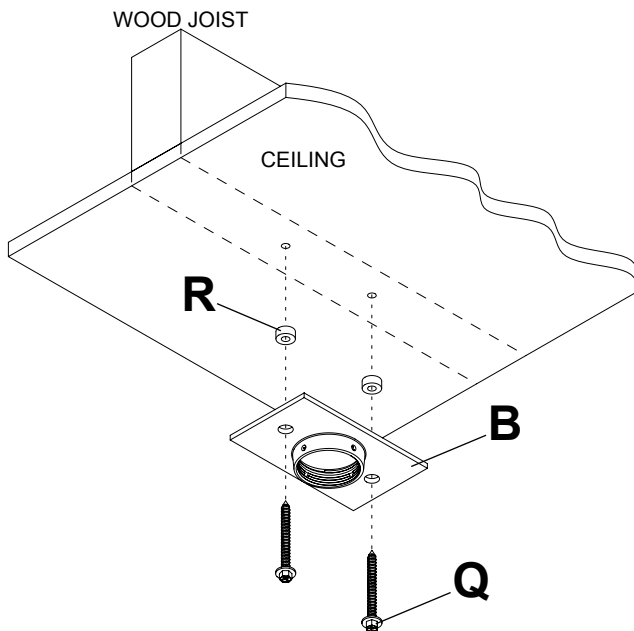

**fig. 1.1**
**1** Drill two 5/32" (4 mm) dia. holes to a minimum depth of 2.5" (64 mm). Attach ceiling plate (**B**) to ceiling with two #14 x 2.5" wood screws (**Q**) using 3/8" (10 mm) socket wrench as shown in figure 1.1.